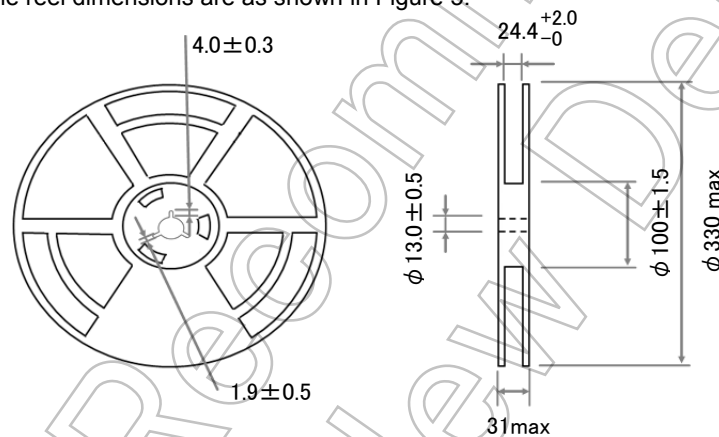

**Figure 4 Reel Forms**
(2)Dimensions: The reel dimensions are as shown in Figure 4.